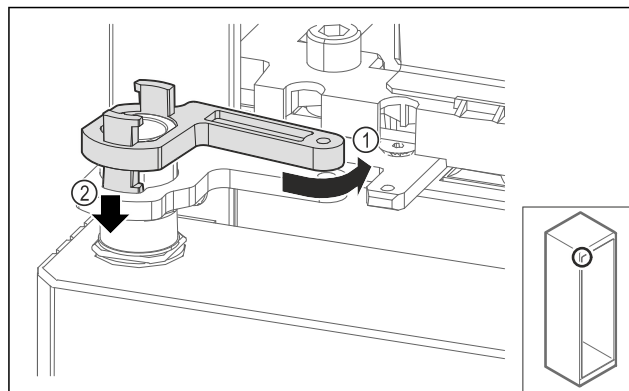

Fig. 67
- Turn the swap bearing block lock back slightly Fig. 67 (1), press it down Fig. 67 (2) and lock it at the hinge bracket.